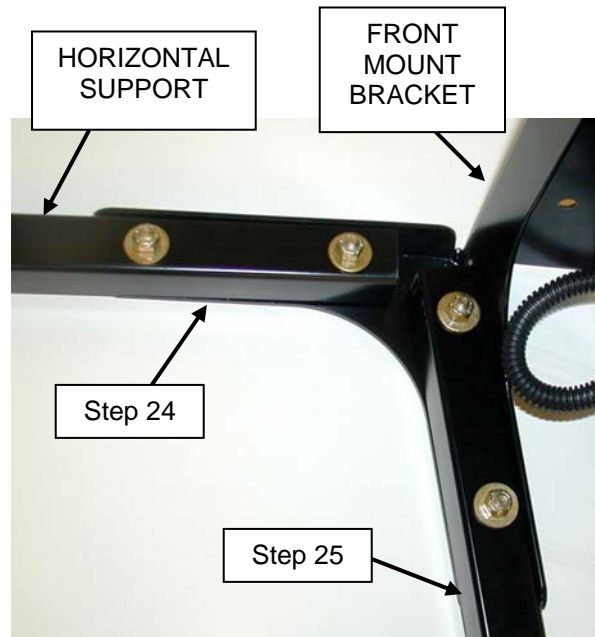

Figure 2
24. Secure front mount bracket to the front of horizontal support tubes and secure with (4) 5/16" x 2.00" bolts, (8) 5/16" flat washers and (4) 5/16 nylock nuts. See Figure 2.
25. Assemble front upright support tubes to the front mount bracket. Fasten with (4) 5/16" x 2.00" bolts, (8) 5/16" flat washers and (4) 5/16 nylock nuts. See Figure 2.